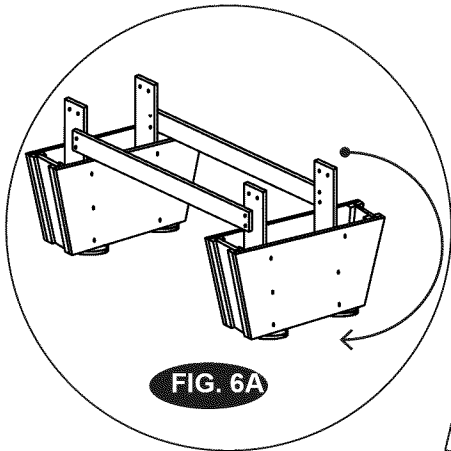

FIG. 6A
- Carefully turn over the leg assemblies. See Fig. 6A.